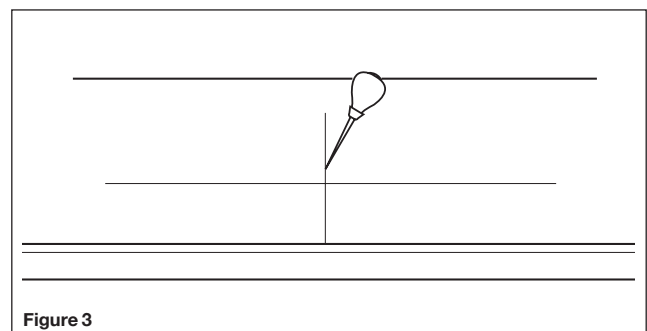

Figure 3
- Determine sink location and scratch in center lines using a straight edge with an awl. (See Figure 3)